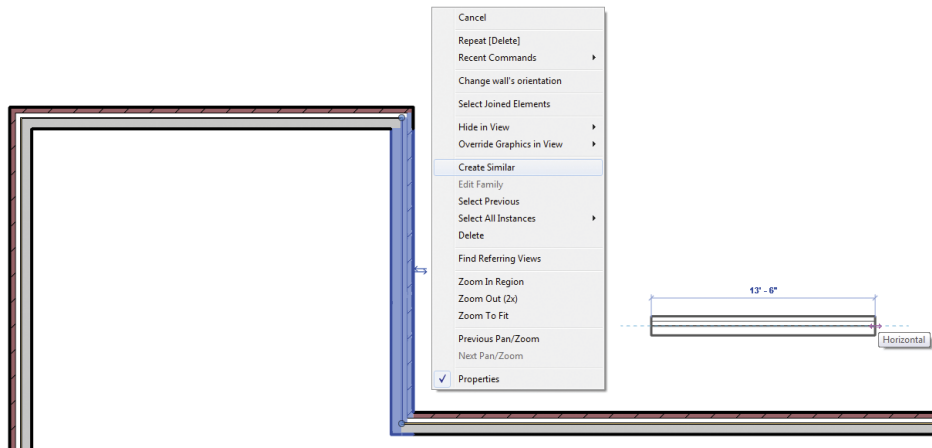

FIGURE 5.4 Using Create Similar to place walls
7. Select one of the walls you added in the Level 1 view and right-click Create Similar (Figure 5.4). This is another way to create a new instance of the same wall type you selected in the view.